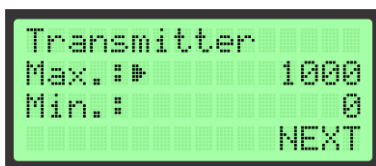
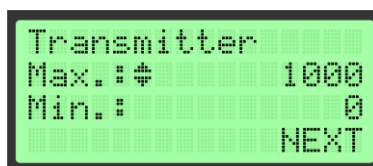
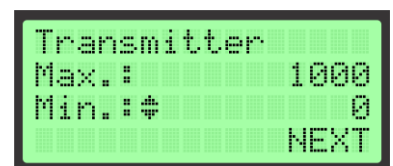

Figure 80 Submenu Screen 2
Figure 81 Changing Maximal Value
Figure 82 Changing Minimal Value
After setting the cursor to point to NEXT and by pressing Enter (E) the user enters the new submenu system (See Figure 80) which allows adjusting of Maximal (Max.) (See Figure 81) and Minimal (Min.) (See Figure 82) Value of the previously selected Measuring Unit.